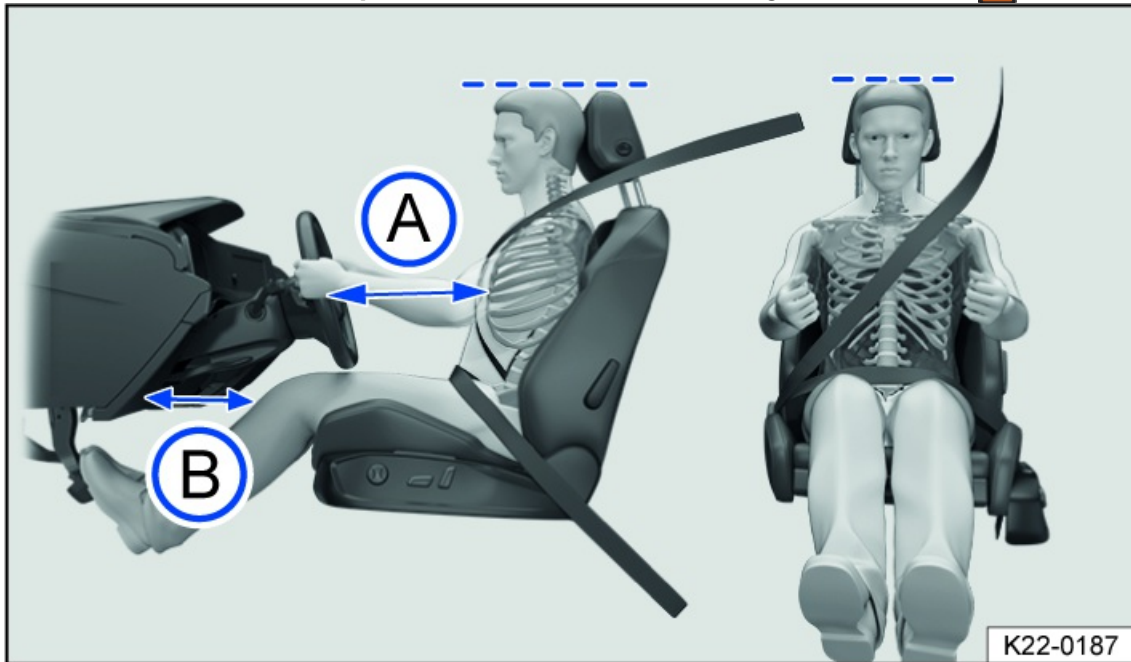

Fig. 28 Correct distance between the driver and the steering wheel, correct safety belt position and correct head restraint adjustment (general example).
- Adjust the head restraint so that the upper edge of the head restraint is in line with the upper portion of the head as much as possible, but not lower than eye level. Position the back of the head as close as possible to the head restraint *fig. 28*.
- Adjust the forward/back position of the driver seat so that you can press the pedals while your legs are slightly bent and there is at least 10 cm (around 4 inches) of space between the instrument panel and your knees *fig. 28*.
- Adjust the steering wheel so that the distance between the steering wheel and your chest is at least 25 cm (around 10 inches) *fig. 28* and you can hold the steering wheel firmly at the sides with both hands and your elbows slightly bent.